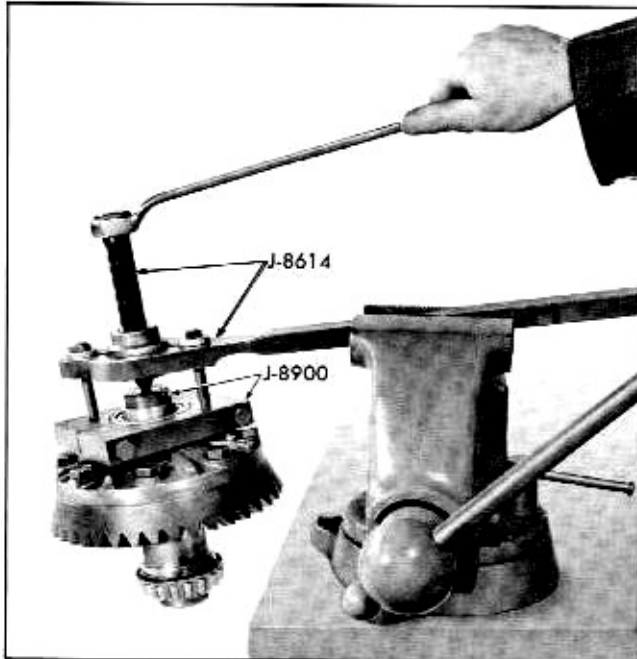

Fig. 4-25 Removing Side Bearings
1. If side bearing or case is to be replaced, remove bearings using J-8900 and J-8614 (Fig. 4-25).